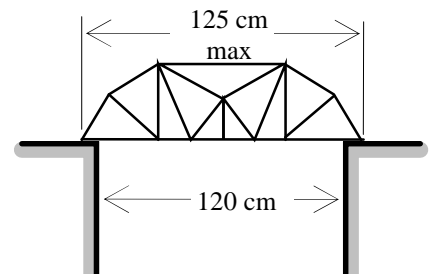

Figure 1: Overall dimensions
2. The bridge will be required to span a gap that is 120 cm across, as shown in Figure 1. The bridge length may not exceed 125 cm. The width of the roadbed must be between 9 and 12 cm, and must accommodate the testing device (including a hole of sufficient size for the steel ring) discussed below. It is the responsibility of each contestant to ensure that this device can be quickly placed onto the bridge. Bridges may not extend more than 3 cm below the road surface.